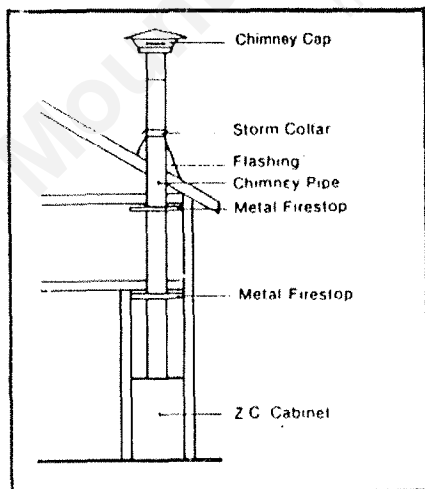
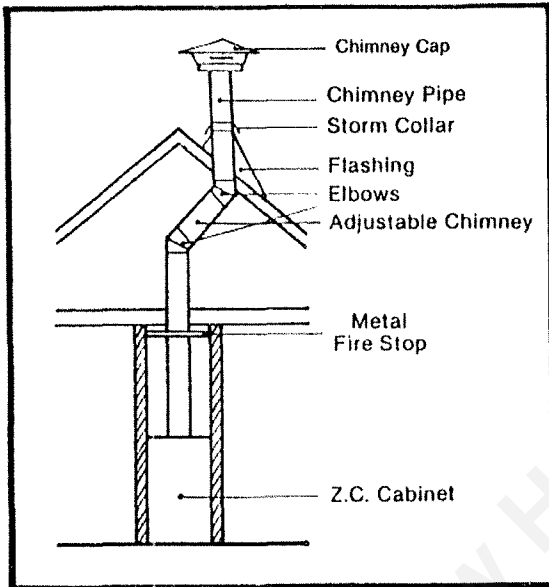

FIGURE 1 Through Ceiling & Normal Pitch Roof
FIGURE 3 OFFSET TO CLEAR OBSTRUCTION
- a. Straight up through ceiling: (See Figures 1 and 2). This is a simple installation normally used when installing a BUCKMATE inside an existing room, and in some cases, in new construction. Refer to Figure 3 if an offset to clear an obstruction is needed.